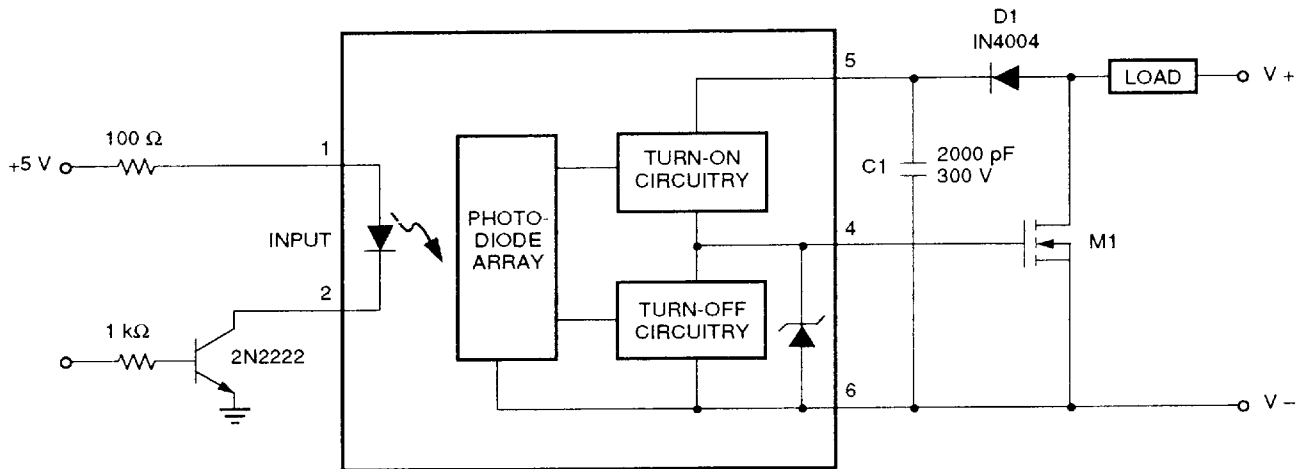

Figure 5. High-Speed dc Relay in Low-Side Drive Configuration
For operation with fast turn-on, a voltage on input B of approximately 20 V or more is required. This voltage can be applied by using a capacitive bootstrapping technique. For fast turn-on configurations, refer to the application diagrams (Figures 5 and 6). When the MOSFET(s) is off, C1 charges up to the load voltage value through D1. With LED turn-on, the photodiode array actuates the turn-on circuitry. The turn-on circuit allows the charge from C1 to flow into the gate of the external MOSFET. Now, milliamps of current will turn on the MOSFET rapidly.
**Table 4. MOSFET Driver Electrical Characteristics in High-Speed Relay Configuration (See Figure 5.)**
The ATT1800 device can be used in low-side or high-side drive applications. Figure 5 depicts a low-side drive application using a single MOSFET for dc switching. Figure 6 depicts a high-side drive application using two source-coupled MOSFETs in series. This configuration allows bidirectional ac (or dc) switching and blocking capability.